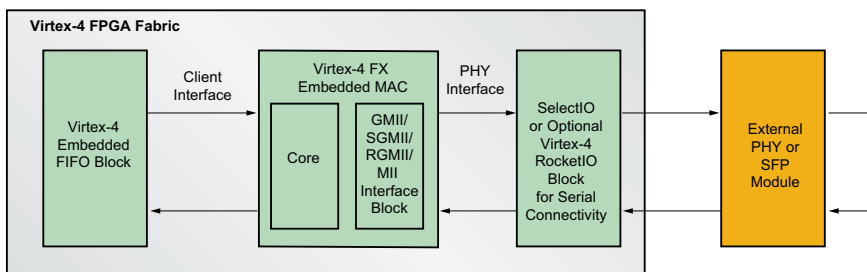

Figure 4 – Multiple Gigabit Ethernet MAC in a switch/router configuration; Virtex-4 embedded FIFO blocks provide intermediate packet storage in the fabric.
- Optical gigabit Ethernet connectivity – connect directly to external optical modules through the Virtex-4 RocketIO transceiver for 1000BaseX operation (Figure 4)